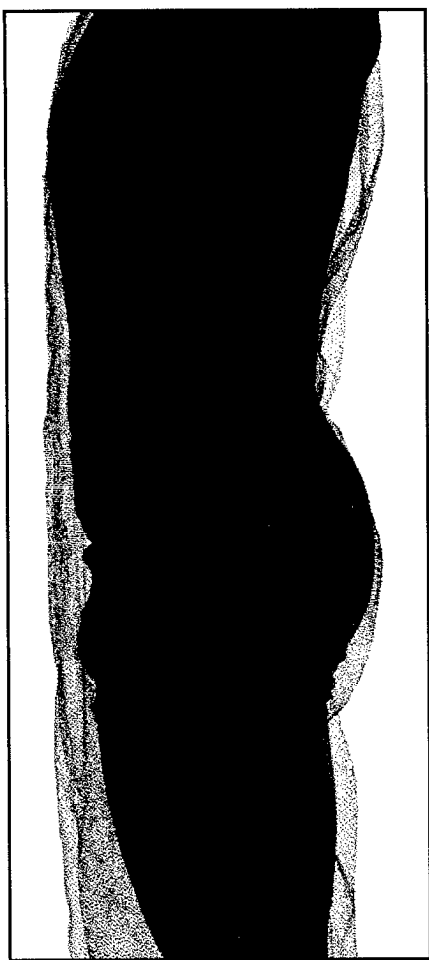

Figure 2. "X-ray view" of flight suit fit.
■ Scan data can show the relationship between a subject and the equipment he or she wears, such as a helmet, glove, boot, or garment. A scan registration method developed at the CARD Lab reveals exactly how an equipment item fits the wearer. Figure 2 illustrates an "x-ray view" of a subject wearing a flight suit. Researchers and designers can quickly examine fit issues using this technique.